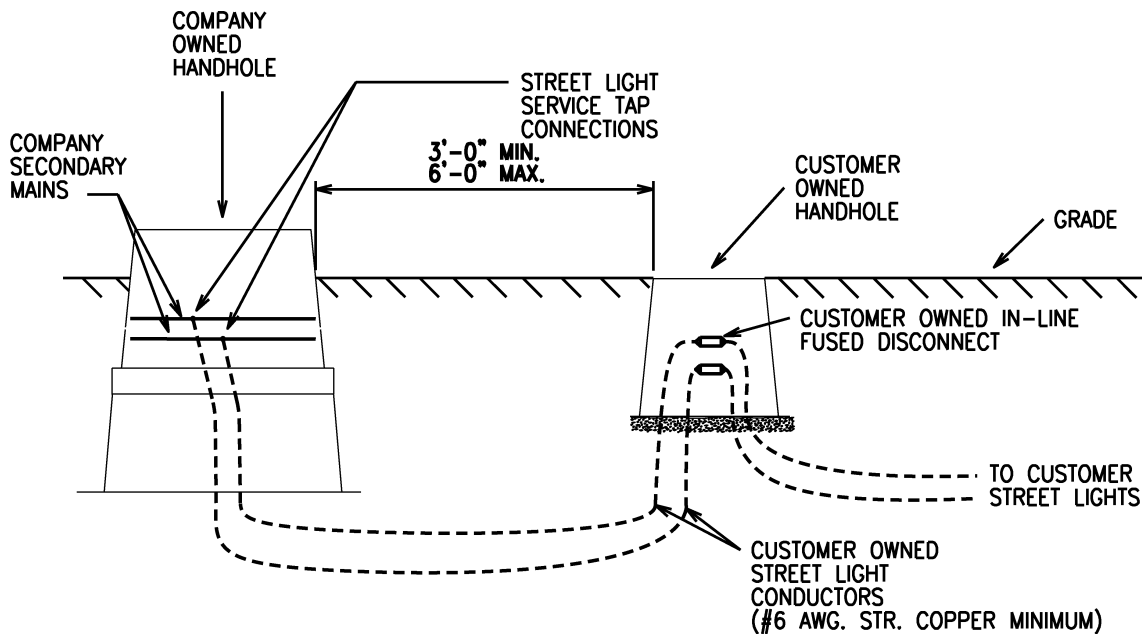

Figure 68 – Connection of Underground Supplied Customer Owned Outdoor Lighting to PPL Handhole or Manhole – Standard Connection
1. Install customer owned handhole as shown in Figure 68. Customer owned handhole shall house the in-line fused disconnect. See page 46-817 for details on the in-line fused disconnect. ↘